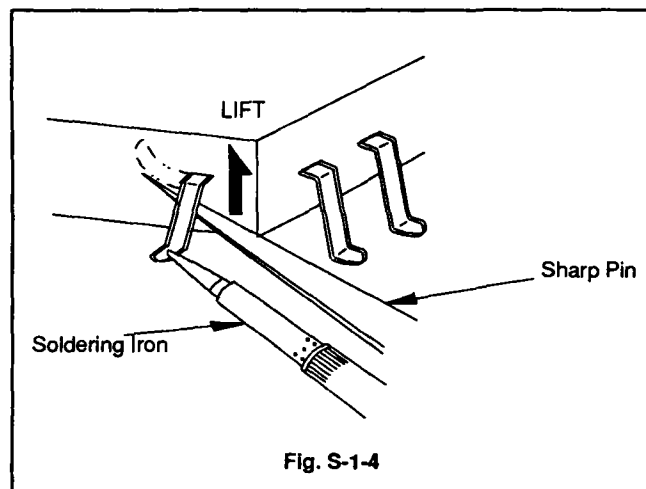

Fig. S-1-4
- (2) Lift each lead of the Flat Pack - IC upward one by one, using a sharp pin or wire to which solder will not adhere (iron wire). When heating the pins, use a fine tip soldering iron or a hot air Desoldering Machine. (Fig. S-1-4)